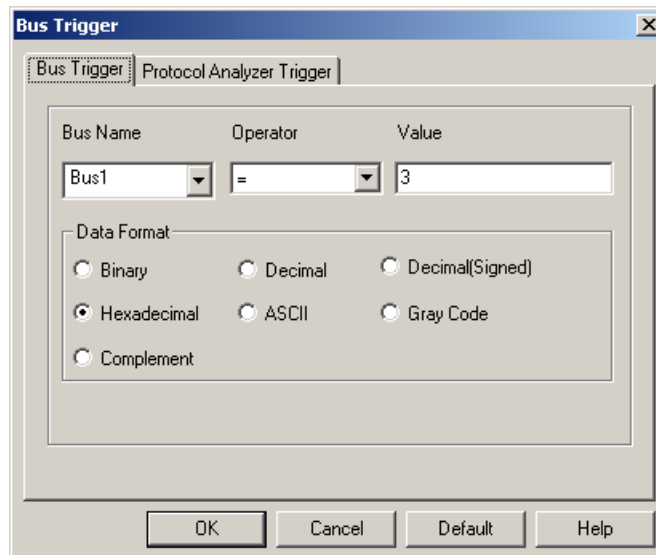

Fig 4-30 – Bus Trigger Setup
1. Highlight the Bus which will be triggered then click  icon or select **Bus Trigger Setup** from the Trigger of the Menu Bar, the dialog box as shown in Fig 4-30 will appear.
2. Set Binary, Hexadecimal, Decimal, Decimal (Signed), ASCII, Gray Code or Complement as the Data Format of the Bus to represent the value (see Fig 4-30).